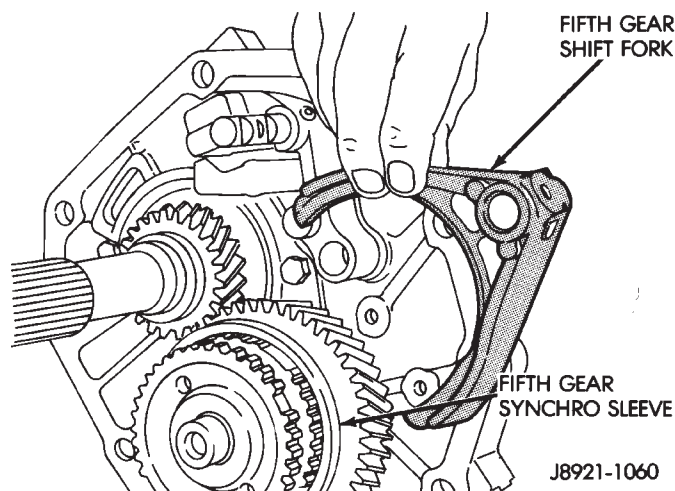
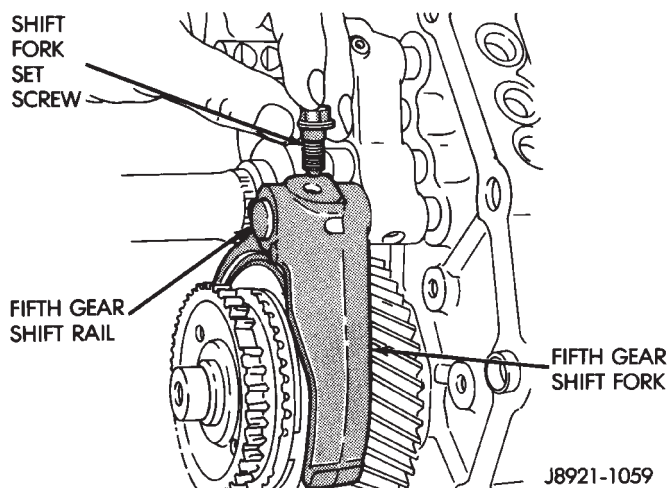

Fig. 54 Remove Fifth Gear Shift Fork
Fig. 53 Remove Fifth Gear Shift Fork Retainer Bolt
(4) Remove bolt holding fifth gear shift fork to shift rail (Fig. 53).
(5) Move fifth gear shift rail forward until the rail is clear of the shift fork.
(6) Remove the fifth gear shift fork from the synchronizer sleeve (Fig. 54).